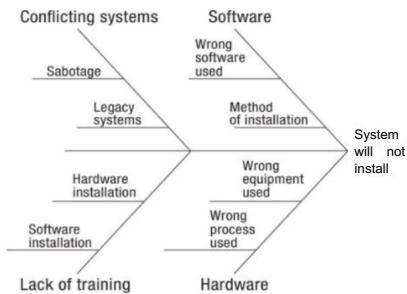

FIGURE 10.7 Cause-and-effect diagram
A team can use cause-and-effect diagrams (see figure 10.7) to confirm that policies and procedures are being followed and metrics are being used correctly, and that the procedures were adequate to produce the required level of quality in project deliverables.
Root cause analysis in Manage Quality seeks to identify the processes, procedures, and policies within the plan that may not work or that may need adjustment. Identifying the root cause of a quality problem helps the team to prevent it from recurring. Cause-and-effect diagrams (as showing in figure 10.7) help in root cause analysis.
- **Cause-and-effect diagrams** In Manage Quality, we discussed the application of the cause- and-effect diagram to determine the root cause of quality issues relating to plans, processes, or procedures. In Control Quality, this tool can be used to look backward at what may have contributed to defects that have occurred as well as to analyze the impact of defects on the quality and acceptability of a deliverable. Look back to figure 10.7 to review this concept.